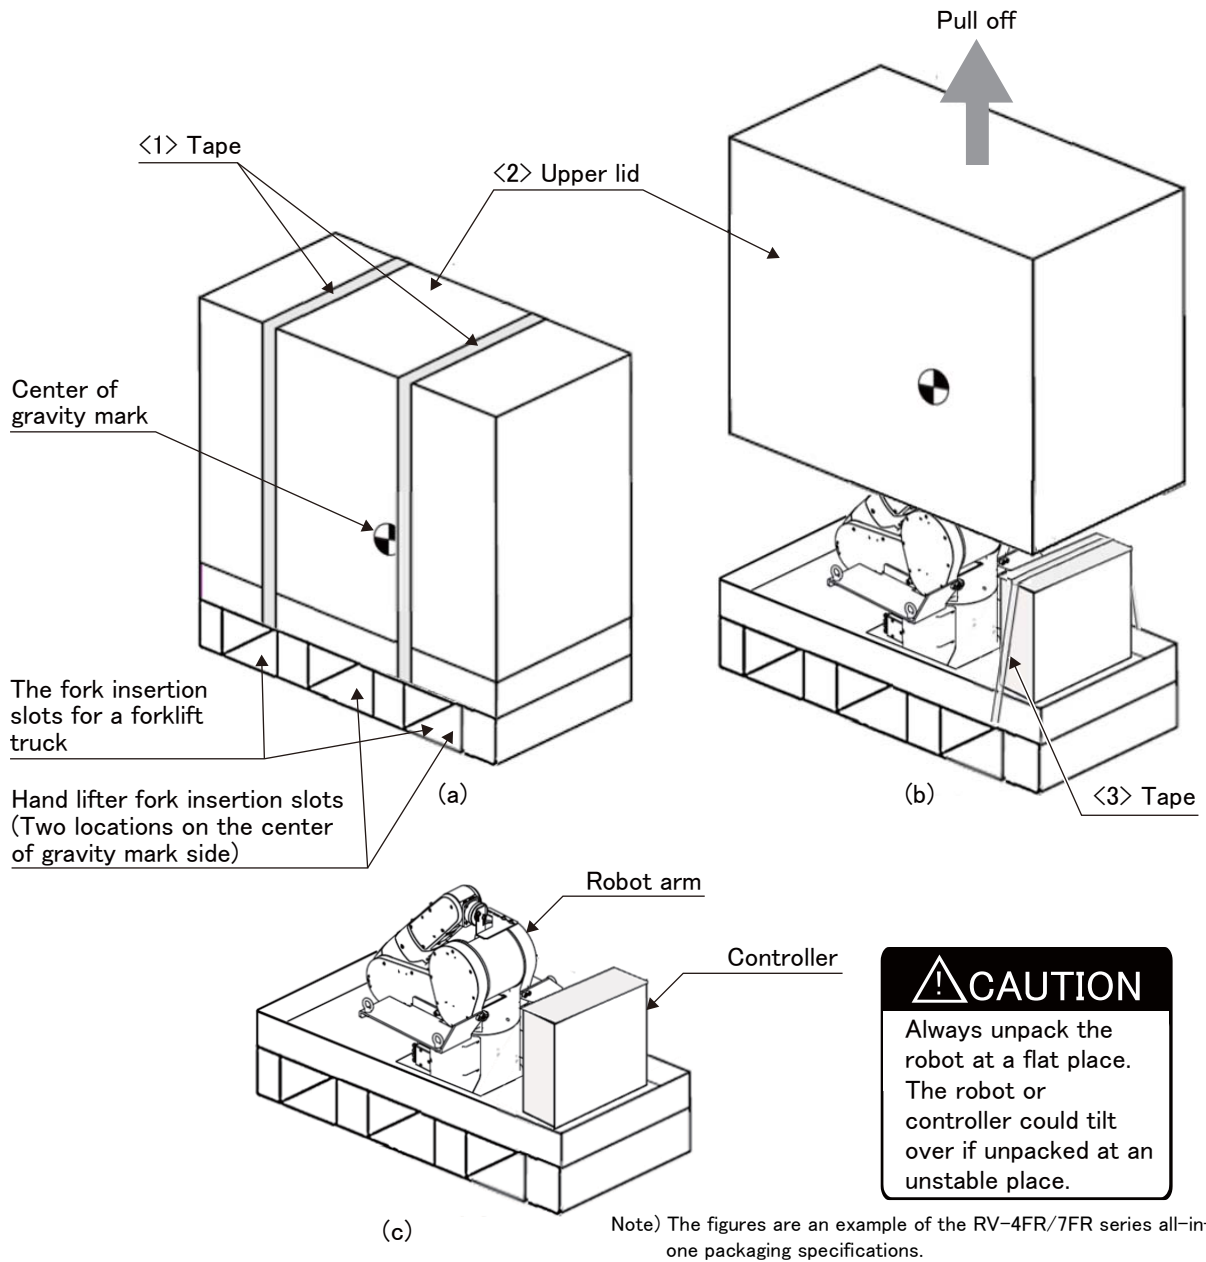

Fig.2-4 : Unpacking of the robot arm (RV-4FR/7FR series all-in-one packaging specifications)
The robot is shipped from the factory in cardboard and plywood packing. Always refer to Fig. 2-4 and unpack the robot.
- 1) Using a knife, etc., slit the tape <1> fixing the upper lid <2> of the cardboard box. (Fig. 2-4 (a))
- 2) Pull the upper lid <2> of the cardboard box off with both hands, and then cut the tape <3> holding the controller in place with a cutter or similar tool. (Fig. 2-4 (b))
- 3) Take out the controller and remove the four hexagon socket bolts connecting the robot base and the pallet. (Fig. 2-4 (c))